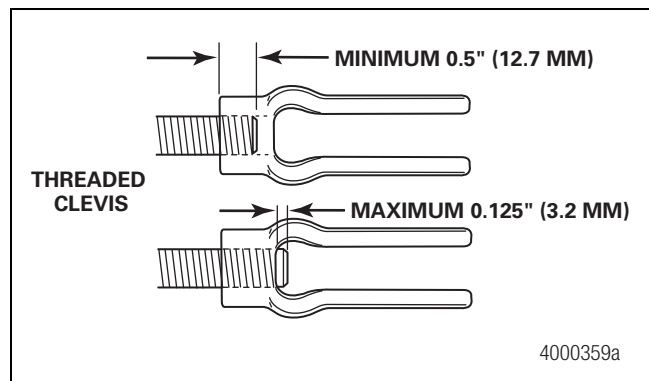

Figure 7.21
5. Verify that the thread engagement between the clevis and push rod is 0.5-0.625-inch (12.7-15.9 mm). Figure 7.21.